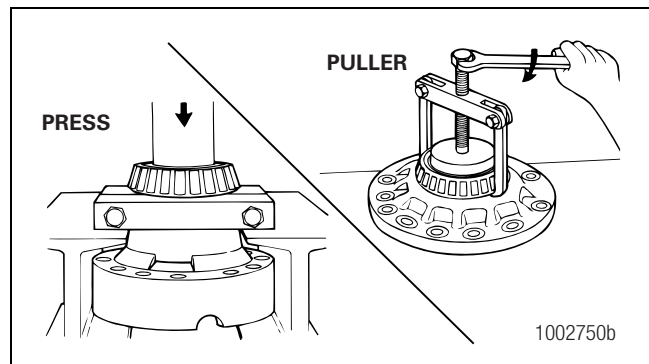

Figure 3.46
8. If the bearing cones on the main differential case need to be replaced, use a bearing puller to remove the cones. Figure 3.46.